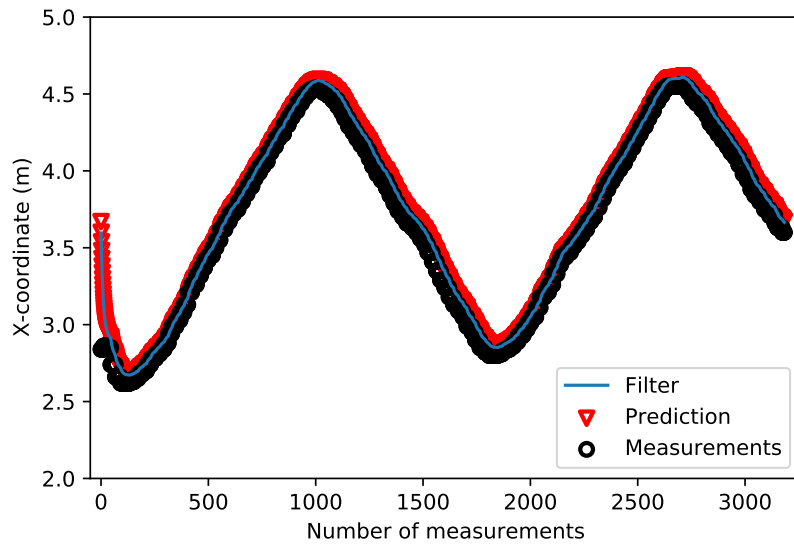
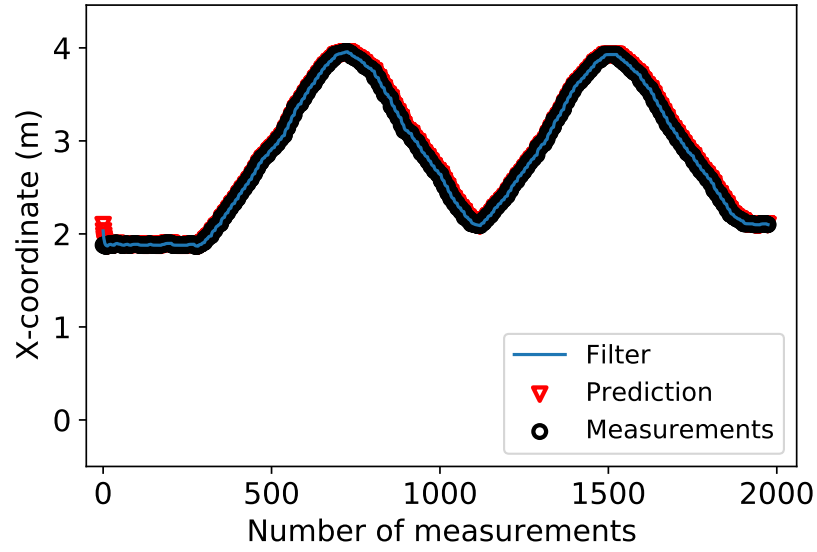

Figure 9: Plot when $\text{sensor_var} = 0.3 \times 2$ for partial round movement with hard-coded velocity
Figure 10: Plot when $\text{sensor_var} = 0.077 \times 2$ for perfect round movement with velocity acquired from rostopic */velocity*
2. partial round movement with hard-coded velocity as shown in Figure 9 and perfect round movement with actual velocity from rostopic *velocity* as shown in Figure 10 and 11